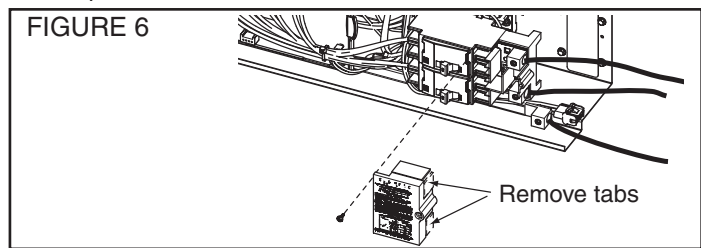

FIGURE 6
- Break off the two cover tabs on the side of the cover plate on the entry kit. Screw the cover plate to the entry kit. See Figure 6.